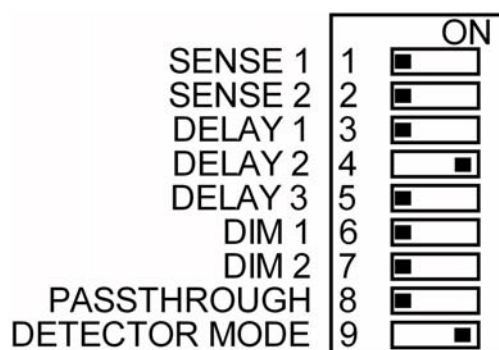

Figure 9. DIP Switch Settings - Vacancy Mode Testing
1. Set DIP Switch S1 to enable Vacancy Mode. See Figure 9.